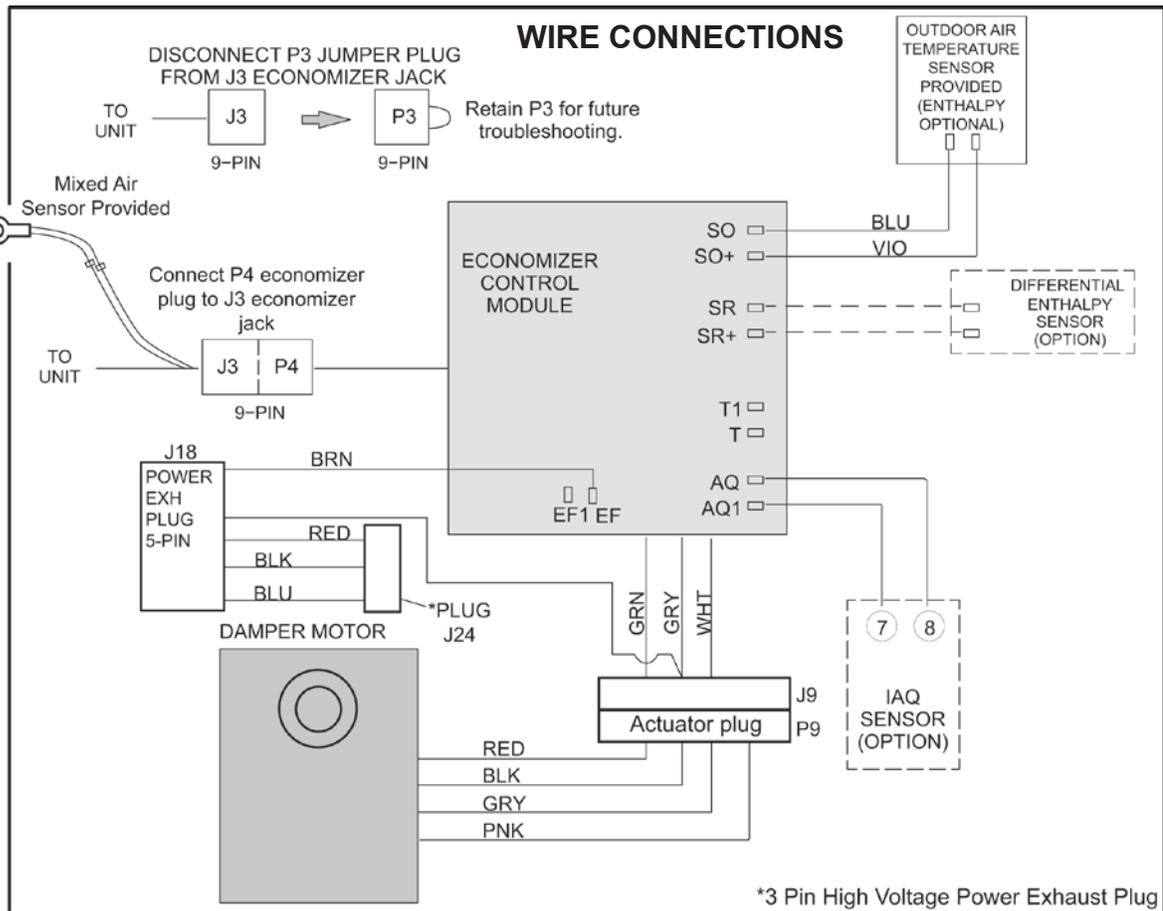

Figure 7 - Wiring Detail
2. Connect any optional sensors as shown in Fig. 7.
3. If optional power exhaust is installed, wire according to instructions provided with power exhaust. See Fig. 7.